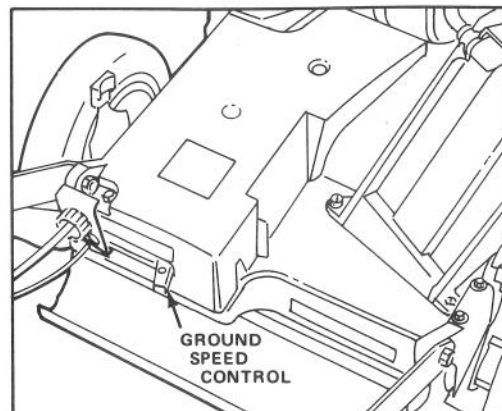

Figure 7
4. **STARTING** (Model 22035) — Move ground speed control to desired speed selection (Fig. 7) and throttle to CHOKE. Pull fingertip starter and